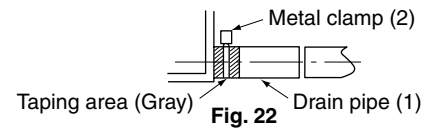
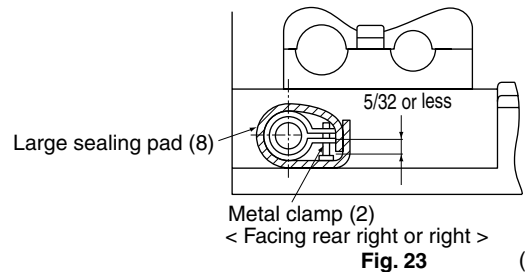

Fig. 22
Fig. 23
- Be sure to use the drain pipe (1) and metal clamp (2). Also, insert the drain pipe completely into the drain socket, and securely attach the metal clamp bracket inside the gray tape area on the inserted tip of the drain pipe. (Refer to Fig. 22) Screw the screws on the metal clamp bracket until there is 5/32 in. left. (Pay attention to the direction of the attachment to prevent the metal clamp bracket from coming into contact with the suction grille.) (Refer to Fig. 23)
- Insulate the metal clamp bracket and drain pipe from the bottom using the large sealing pad (8). (Refer to Fig. 23)